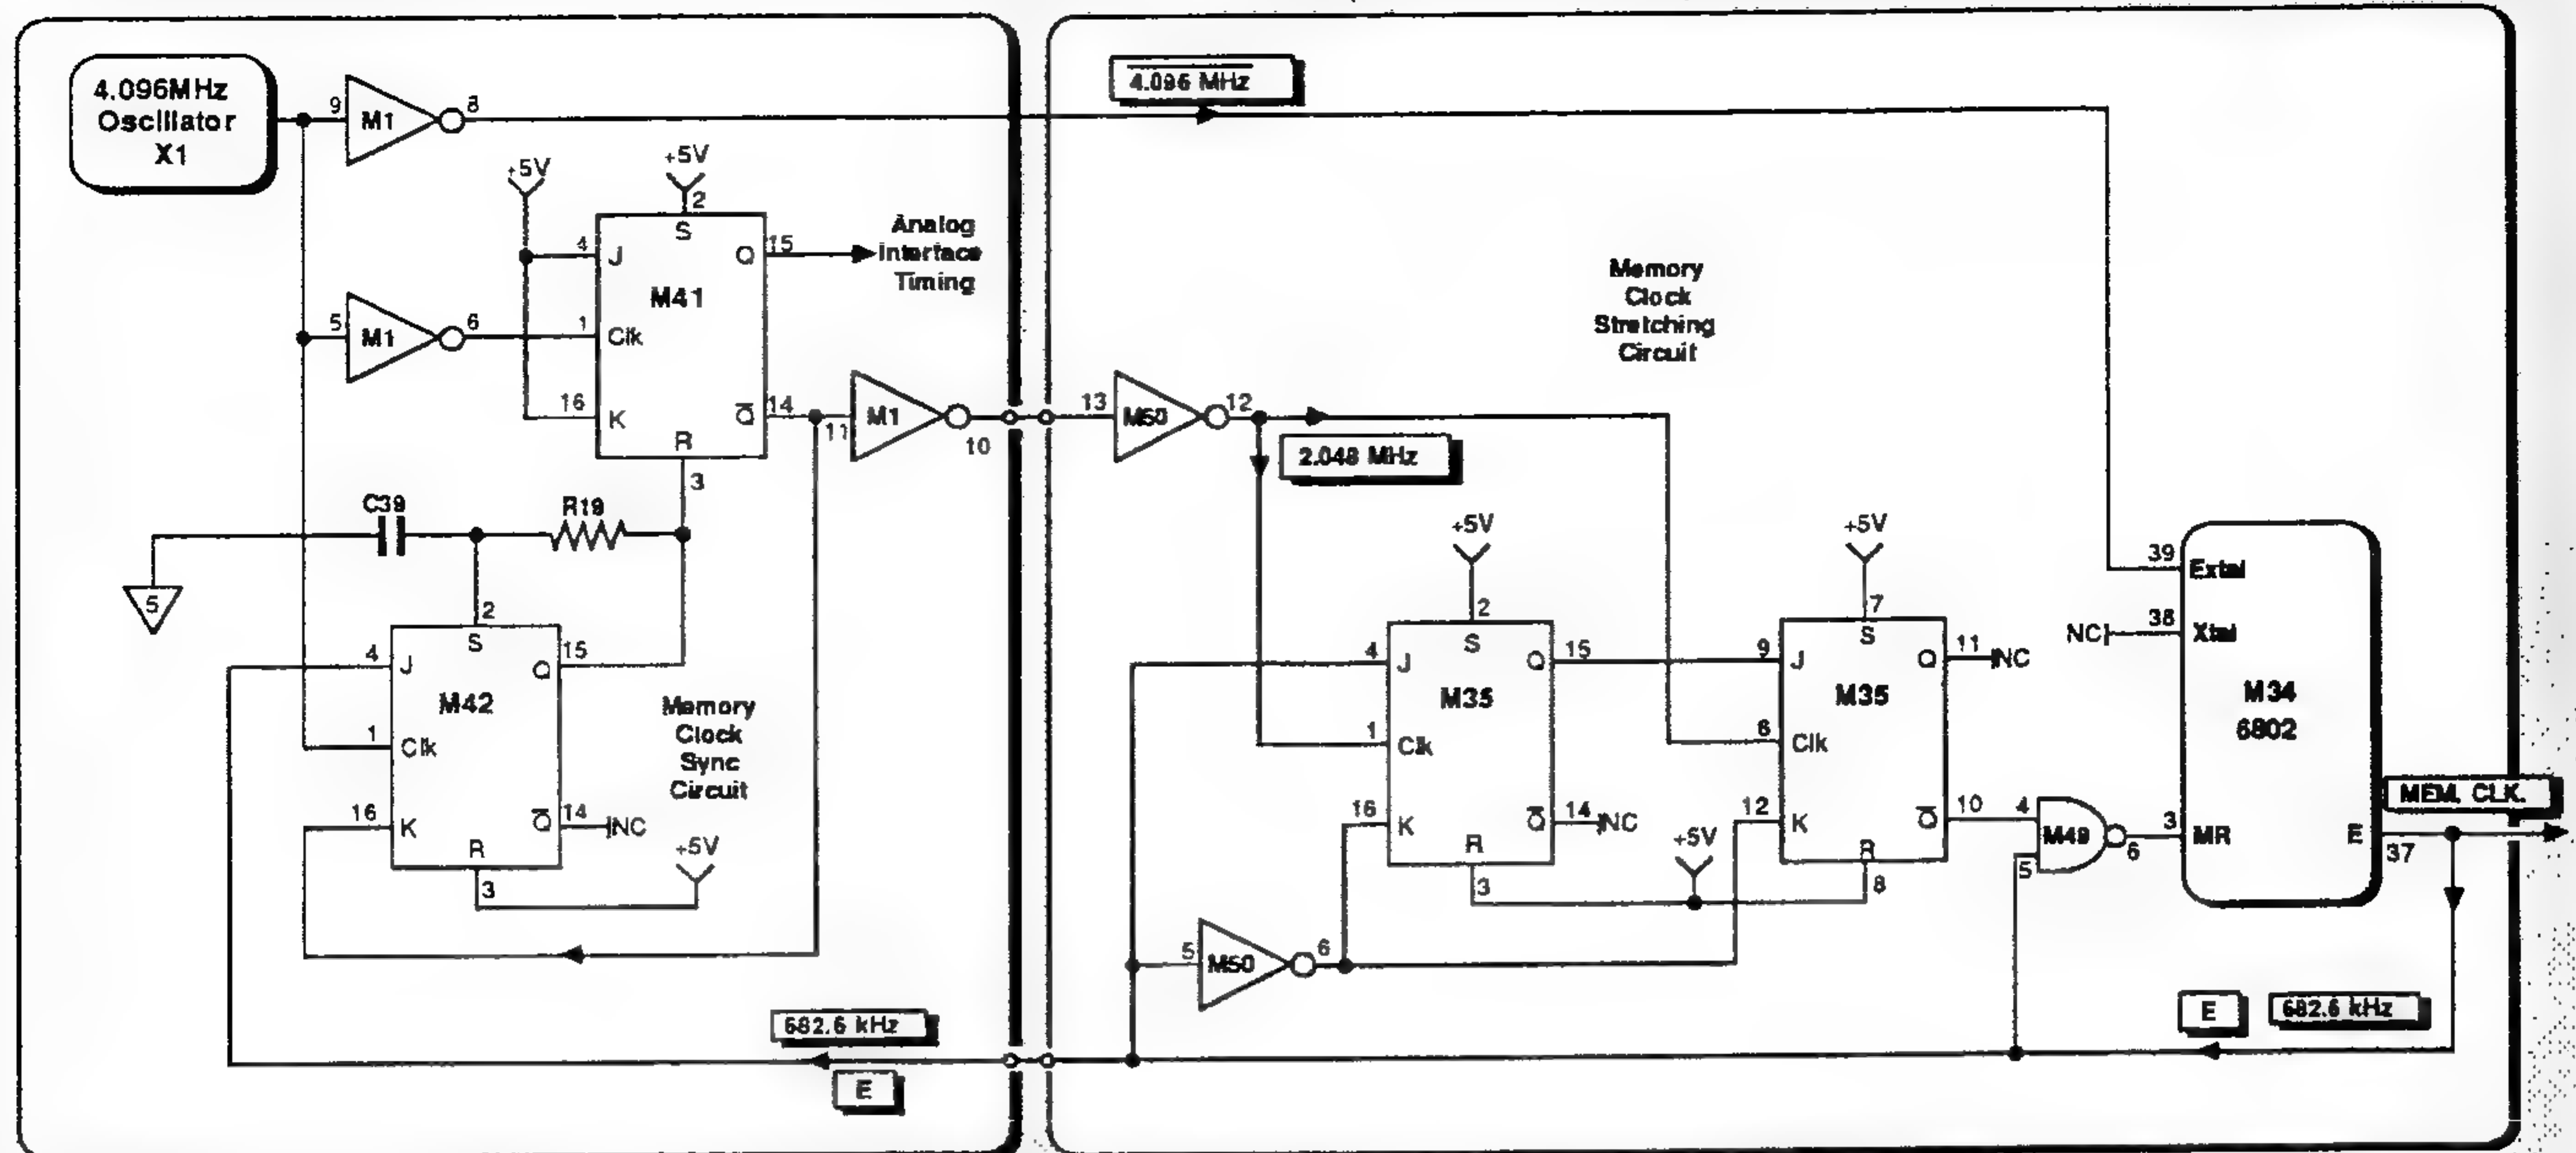

FIG. 6.4 CLOCK SHAPING CIRCUIT
NB As the circuit locations in Fig 6.4 are clearly marked, and as there are no duplicate designators in the circuits, this description does not refer to a component's location except where necessary.
If M34-3 (MR-Memory Ready) were permanently held at +5V, the E signal would be 1.024MHz. But in the 4708, a 'stretching' circuit (M35/M49) doubles the Logic High (+5V) time of E by switching MR to Logic Low (0V) for part of the cycle. This is shown on Fig.6.4.
(Fig. 6.4)
6.1.7.2 Shaping Action (Figs. 6.4 and 6.5)